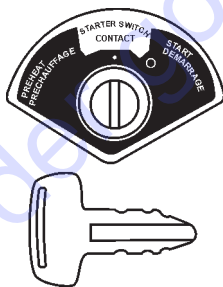

Figure 10. Ignition Switch and Key
- Insert the **ignition key** into the ignition switch (Figure 10).